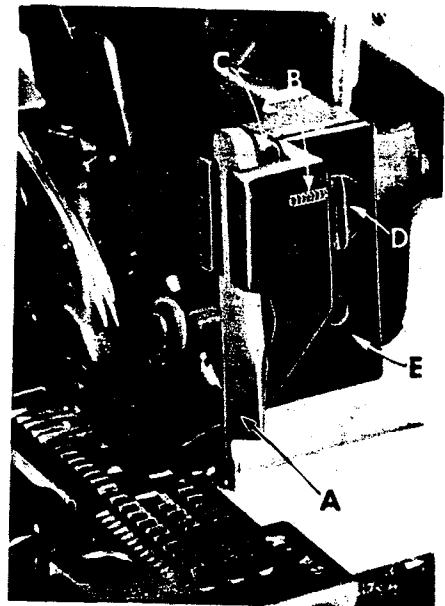

Fig. 12
Replace upper knife assembly. Clamp upper knife (A, Fig. 12) in position, setting allen screw (B) to hold clamp (C) against the upper knife. At bottom of its stroke, front cutting edge of upper knife should extend not less than  $\frac{1}{64}$  inch below cutting edge of the lower knife.